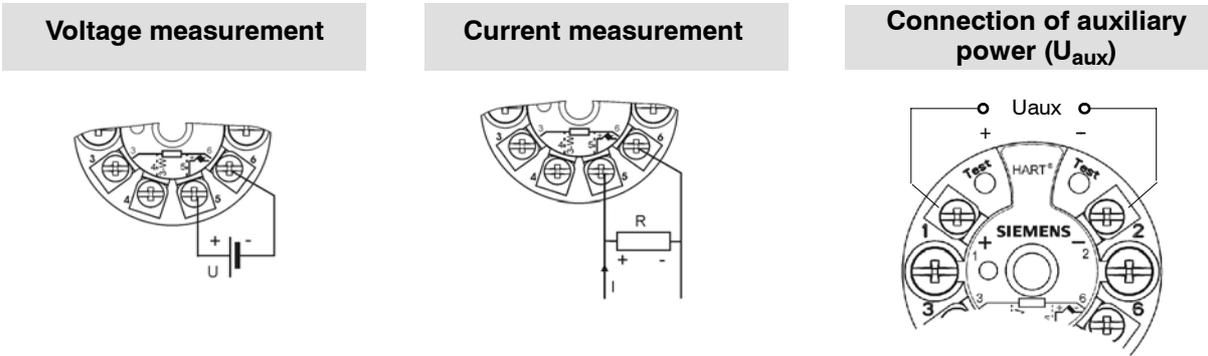

Fig. 8 Connection diagrams
- Connection of the sensor, see Fig. 8, page 18
Connect the wires for the auxiliary power supply to terminals "1(+)" and "2(-)", as shown in Fig. 8, ensuring polarity is correct (device is reverse polarity protected).
Connect the ammeter to both test terminals "Test(+)" and "Test(-)" as shown in Fig. 8, the 4 to 20 mA current can now be checked.